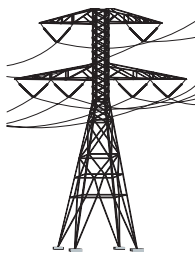

fig. 1
On the back of the machine there is also a terminal marked by the symbol (see fig.1) used for the equipotential connection between different appliances. The special dataplate gives the max. power value in watts (W) and amperes (A), for dimensioning of the line, cable and switches.